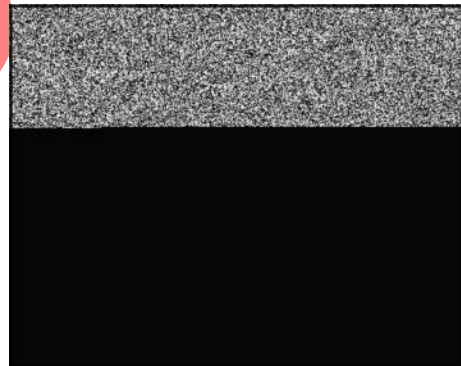

Figure 33
Both of these systems consist of a starter motor (A, Figure 33), starter switch, interlock switch (B), and solenoid (optional). When the starter switch or solenoid is actuated, the battery supplies power to the starter motor, cranking the engine. When the engine is running, the alternator (C) recharges the battery.